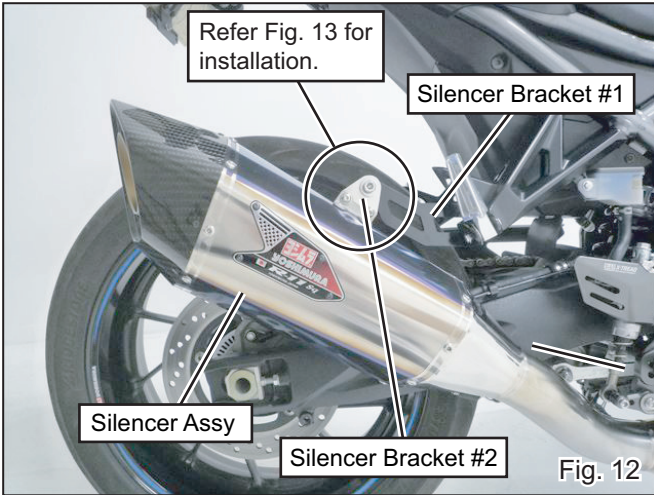

Fig. 12
10) Install Silencer Assy to vehicle by connecting Silencer Bracket #1 and Silencer Bracket #2 by using Cap Bolt M8x30, Washer M8x20, Washer M8x20 and Flange Nut M8 (See Fig. 12, 13).